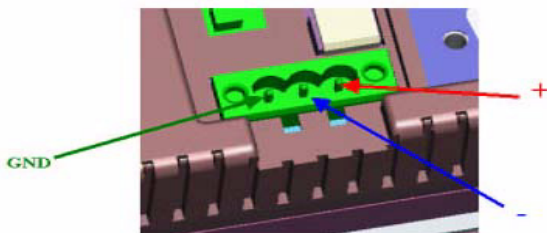

Figure 2.4: Power Receptor & Button Pin Assignment
- Step 5: Push the power button to power on the system (figure 2.4).